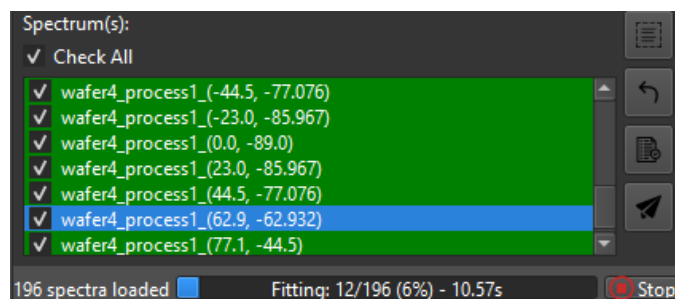

Figure 5: SpectraList and ProgressBar
**ProgressBar:** placed under the SpectraList (see Figure 5) displays the number of spectra available in the SpectraList, and the progress of the fitting process (number of fitted spectra / total spectra, percentage (%), and elapsed time (s)). The Stop button allow to stop the fitting process at anytime.